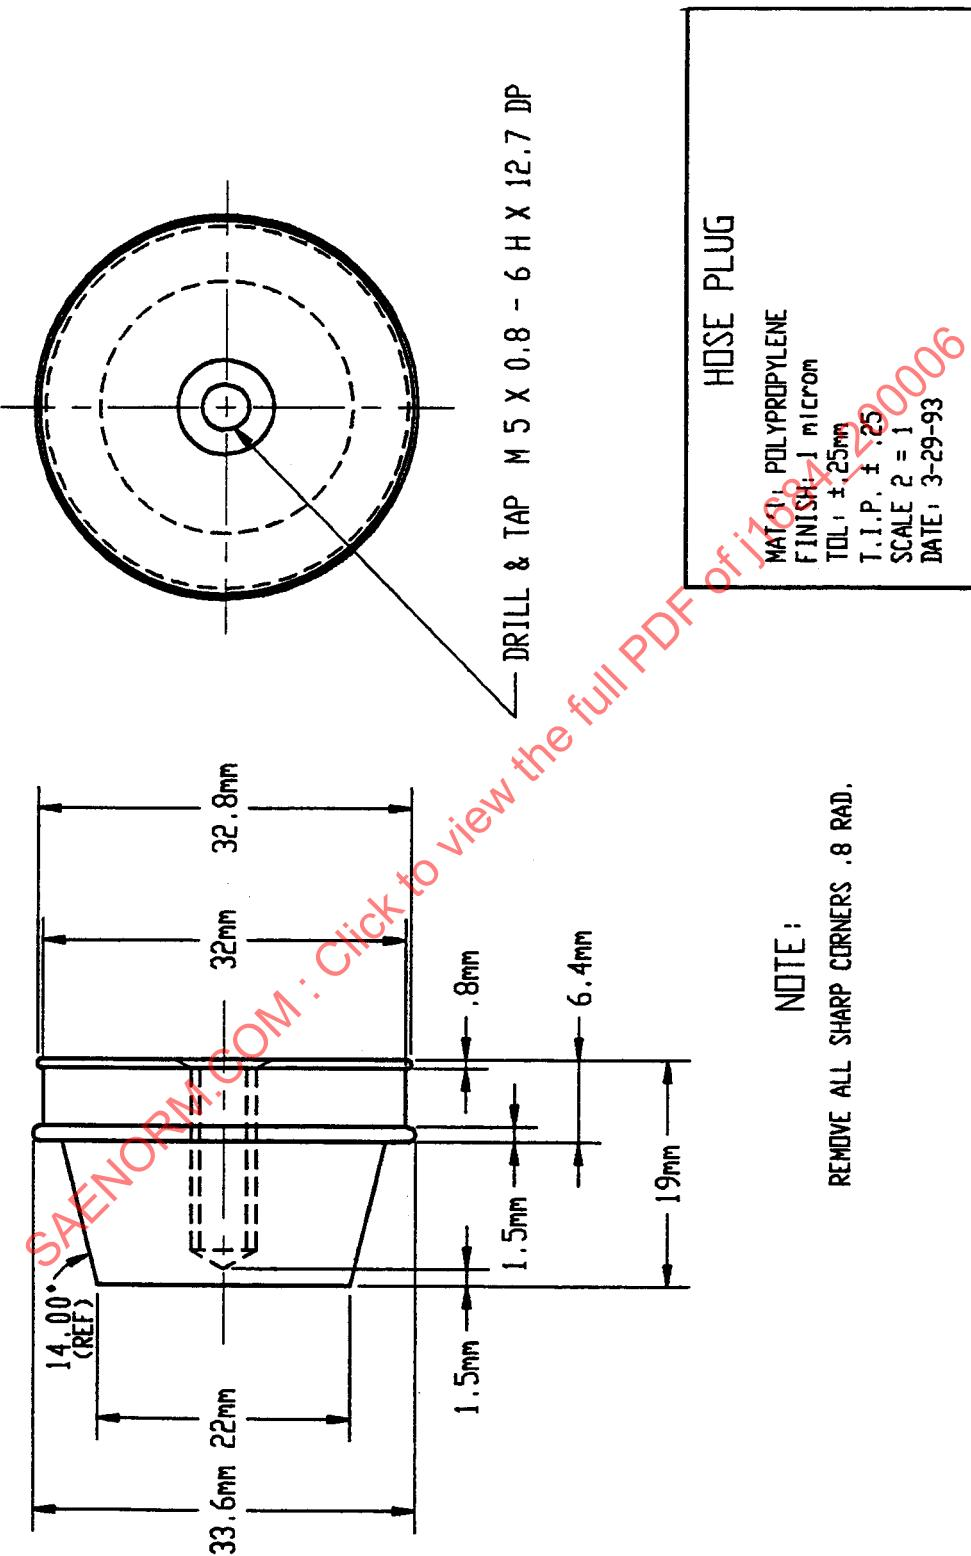

FIGURE 1A—POLYPROPYLENE HOSE PLUG
3.4 End plugs chemically resistant, electrically nonconductive thermoplastic as polyamide, PTFE, or polypropylene suitable for isolating voltage applied to end of hose from the liquid test media inside the hose. Electrical contact surface for applied voltage should be the inside circumference of test hose. See Figures 1A and 1B for end plug assembly components. The end plugs shown are for 31.8 mm ID hose, which is preferred, but other sizes can also be made.